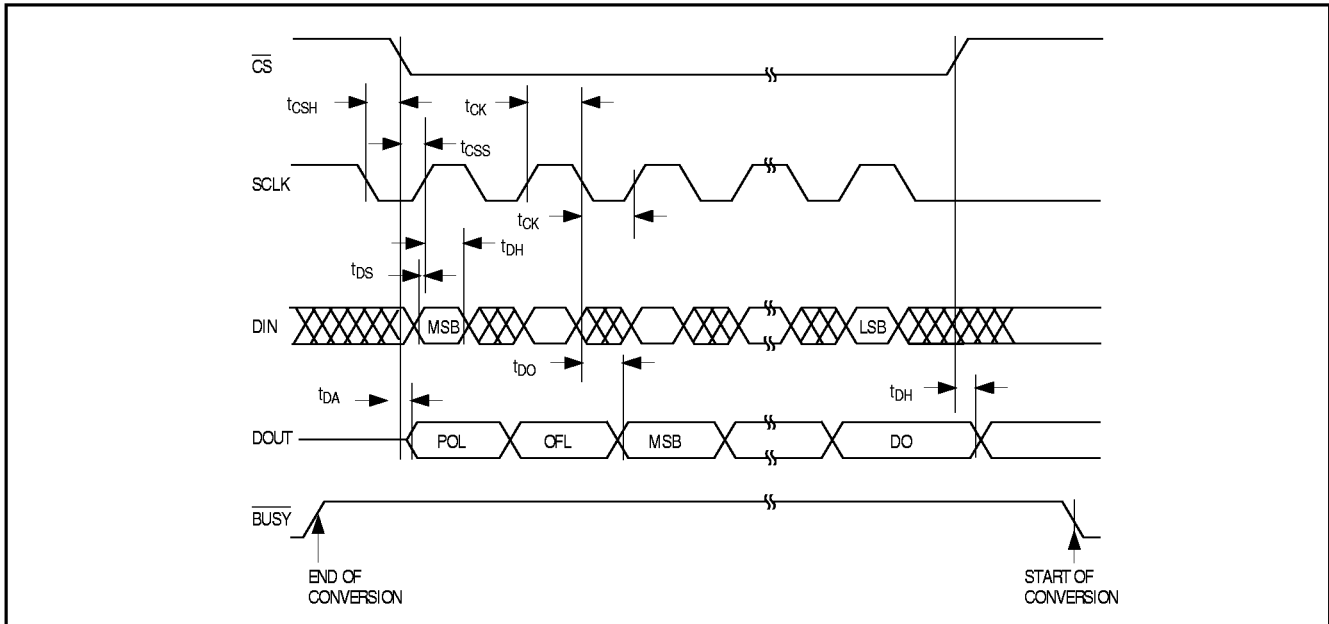

Figure 6. Detailed Serial-Interface Timing
TIMING CHARACTERISTICS (see Figure 6)
The output data from the MAX110/MAX111 is arranged in twos-complement format (Figures 4, 5). The sign bit (POL) is shifted out first, followed by the overrange bit (OR), and the 14 data bits (MSB first) (see Figure 6). The MAX110 operates from $\pm 5V$ power supplies and converts low-frequency analog signals in the $\pm 3V$ range when using the maximum reference voltage of $V_{REF} = 3V$ ($V_{REF} = V_{REF+} - V_{REF-}$). Within the $\pm 3V$ input range, greater accuracy is obtained within $\pm 2.5V$ (see *Electrical Characteristics* for details). Note that a negative input voltage is defined as $V_{IN-} > V_{IN+}$. For the MAX110, the absolute voltage at any analog input pin must remain within the $(V_{SS} + 2.25V)$ to $(V_{DD} - 2.25V)$ range.
Data is transferred into and out of the serial I/O shift register by pulling $\overline{CS}$ low and applying a serial clock at SCLK. This fully static shift register allows SCLK to range from DC to 2MHz. Output data from the ADC is clocked out on SCLK's falling edge and should be read on SCLK's rising edge. Input data to the ADC at DIN is clocked in on SCLK's rising edge. A new conversion begins when $\overline{CS}$ returns high, provided the MSB in the input control word ($\overline{NO-OP}$) is a 1 (see *Using the MAX110/MAX111 with Microwire, SPI, and QSPI Serial Interfaces*). Figure 6 shows the detailed serial-interface timing diagram.